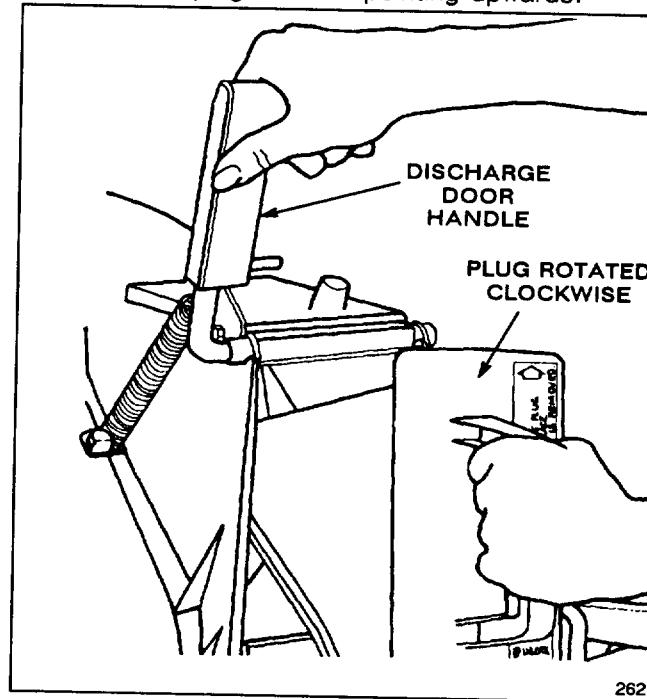

Figure 6
1. Open the discharge door by pulling forward on the handle and moving it rearwards (Fig. 6). Hold the discharge door handle to prevent the spring-loaded door from closing while inserting the plug.
2. Since the plug is slightly wider than the discharge tunnel opening, rotate the plug clockwise slightly while inserting it (Fig. 6). Make sure the arrow on the plug decal is pointing upwards.